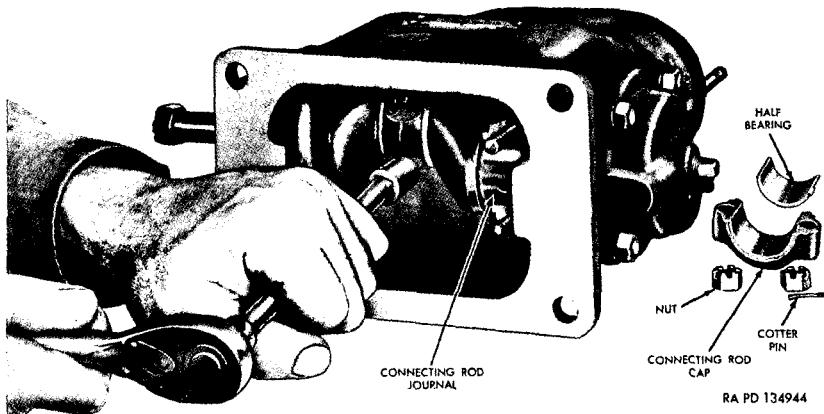

Figure 23. Removing connecting rod caps (all compressors).
e. Remove Pistons and Connecting Rods. Remove cotter pins and nuts from connecting rod bolts and lift out connecting rod caps (fig. 23). An extension socket (fig. 23) will be found helpful. If rod is fitted with replaceable bearings, guard against dropping them as they are easily damaged. Push pistons and rods out of cylinders, again using care not to drop bearings. Rods, caps, and bearings should be reassembled in original positions, as shown by markings, and kept together. The method of marking also identifies the original installation positions. Marks consist of short lines stamped on the milled sides of both rods and caps. Rods from number 1 cylinders have one mark on both rod and cap; two marks for number 2 cylinder, and three marks for number 3 cylinder. Number 1 cylinder, in all cases, is the cylinder next to the end of crankshaft that receives power to drive compressor. If compressor is self-lubricated, remove the oil pump piston rod from crankshaft and assemble cap and rod. Keep together. Do not remove oil pump piston from rod unless it is to be replaced.